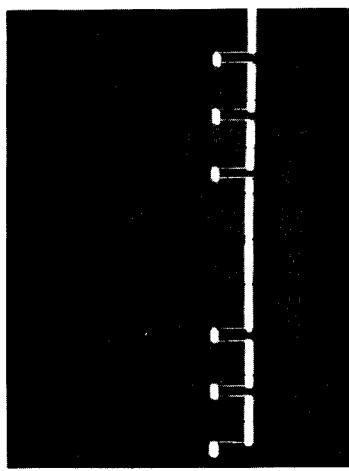

Figure 18. Resultant Display
6. With either channel A or B VOLTS/DIV vernier **56**, adjust for minimum deflection in common-mode signal. The resultant display will either subtract all of unwanted component or display desired signal larger than common-mode signal. (See figure 18.)